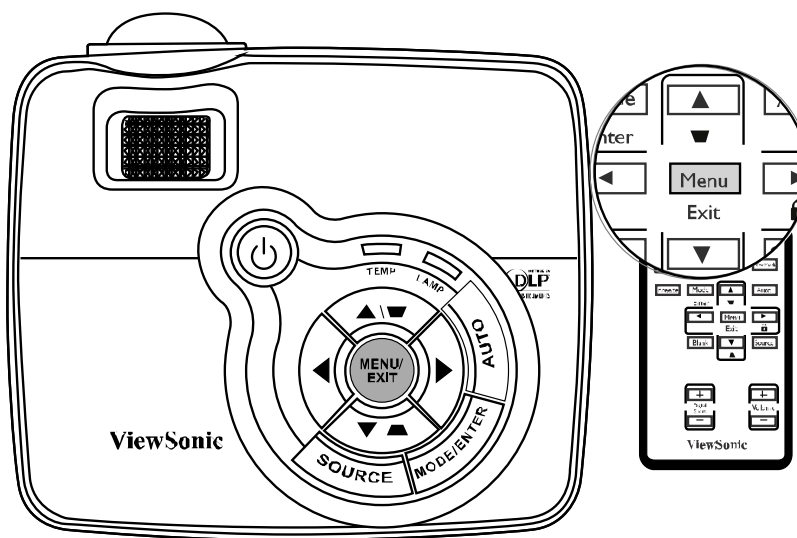

Figure 34. Selecting Aspect Ratio.
1. Press **MODE/ENTER** (see Figure 34) on the remote control or projector repeatedly until your desired mode is selected.
1. Press **MENU/EXIT** (see Figure 34) to open the On-Screen Display (OSD) menu.